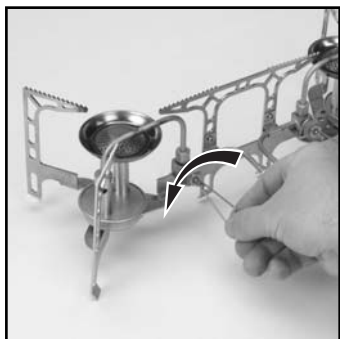

FIG. 31
- Turn flame adjuster to “High/Light” (Fig. 31).